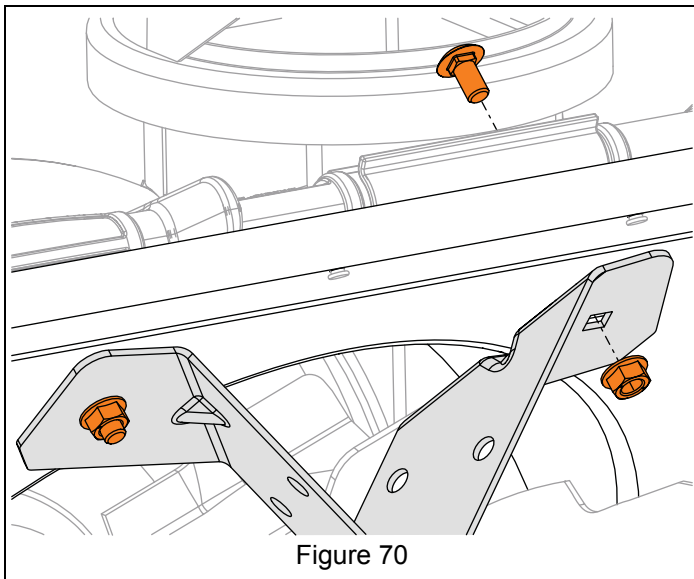

Figure 70
6. Secure support brackets to auger housing with original round head square neck bolts and top locking flange nuts. See Figure 70.